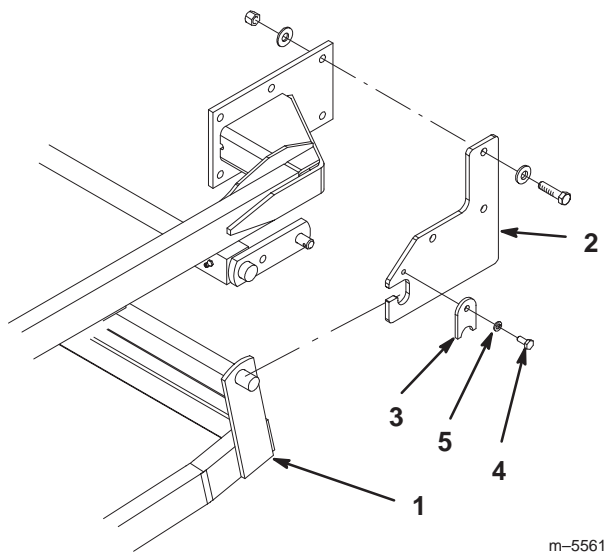

Figure 7
1. Slide the blade frame beneath the traction unit and hook the rear shaft of the blade frame into the slots in the support plates (Fig. 7).
2. To keep the blade assembly from moving around in the slots, attach a retainer plate to each side of the support plates with a screw (1/4 x 5/8 in.) and lock washer (Fig. 7).